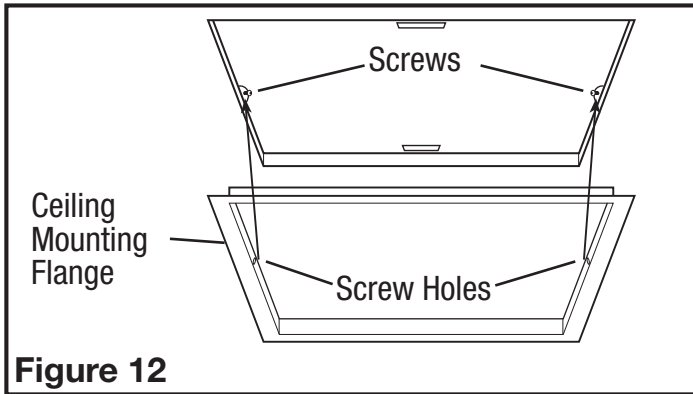

Figure 12
**NOTE:** If the mounting flange is installed on the fan housing, remove the two screws that connect the ceiling mounting flange to the housing and set aside (Figure 12).
4. Install the ceiling mounting flange to cover any gaps which exist between the housing and the finished ceiling. Remove the two screws that connect the ceiling mounting flange to the housing. Put sealant (not provided) on inside edge of the ceiling mounting flange to ensure that the flange is sealed to the ceiling. Line up the screw holes in the ceiling mounting flange with the screw holes on the inside of the housing and press flange in place so it is tight against the ceiling. Reinstall ceiling flange mounting screws inside the housing (Figure 12).